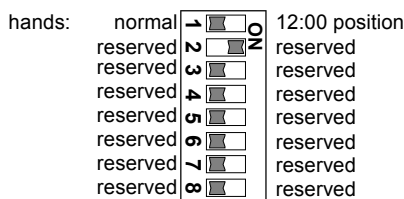

Fig. 6 (ADU 190)
- Different running modes of the second hand, selectable by means of DIP-switch 2 and 3 (Fig. 6).
- Set DIP switch 1 to **ON** position (12:00 Position, Fig. 6, 7)
- After checking the 12 o'clock position, reset DIP Switch 1 to **OFF** position (Fig. 6, 7).